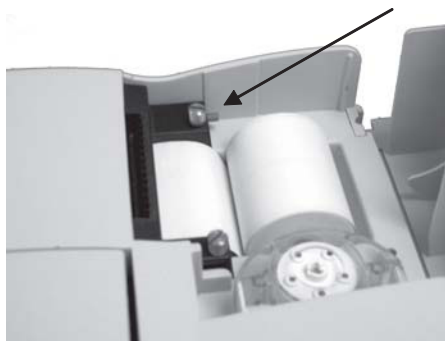

Fig. 6-38 Paper Advance Button
2. Press the paper advance button to eject any remaining paper (Fig. 6-38).
6. To advance paper after the initial installation, press the red paper advance button located on the left side of the printer (See Fig. 6-38).